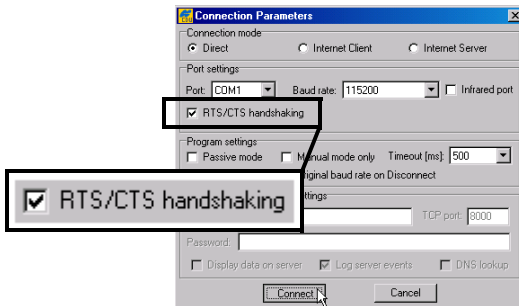

Figure 3-17. Connection Parameters – MINTER Settings
3. On the **Connection Parameters** dialog box, enable RTS/CTS handshaking (Figure 3-17).